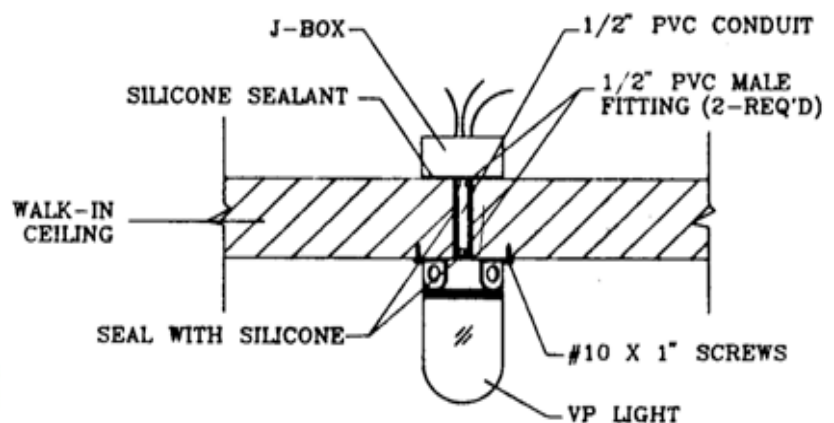

FIGURE 29 - Ceiling Mounted VP Light Section
2. If local code permits, use PVC electrical conduit and fittings. Install the vapor proof lights per Figure 29. Seal all interior conduits to prevent condensation.